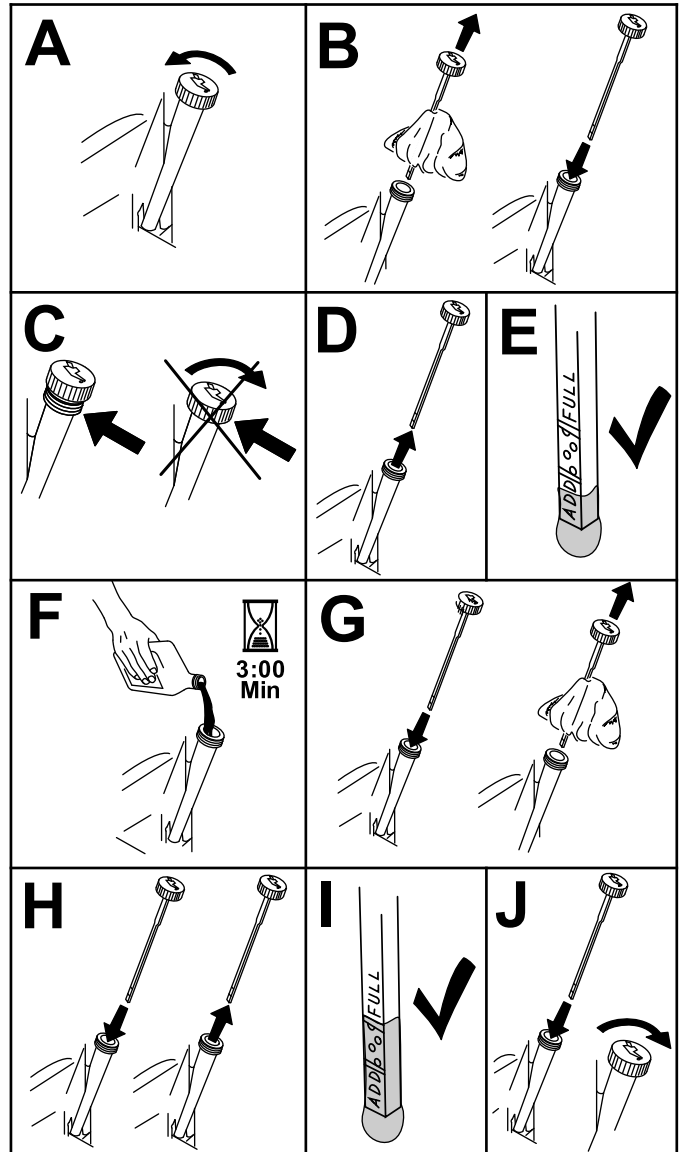

Figure 64
- Slowly pour approximately 80% of the specified oil into the filler tube and slowly add the additional oil to bring it to the Full mark (Figure 64).